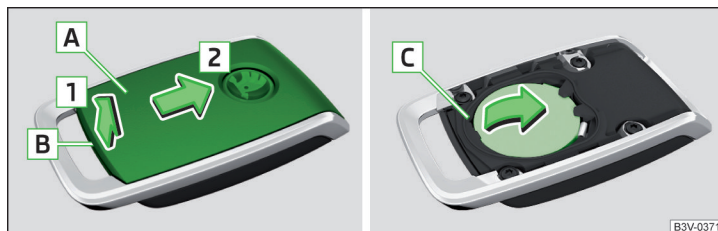

Fig. 244 Radio remote control: Battery cover
- Use a thin screwdriver to remove the cover **A** in the area **B** » Fig. 244.